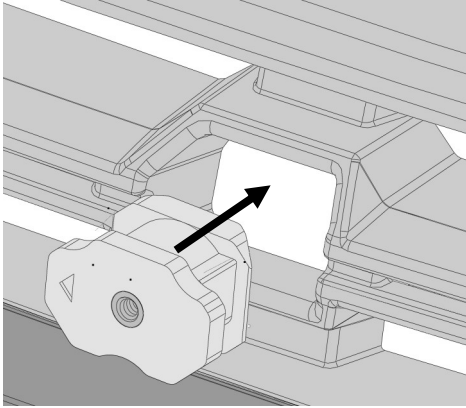
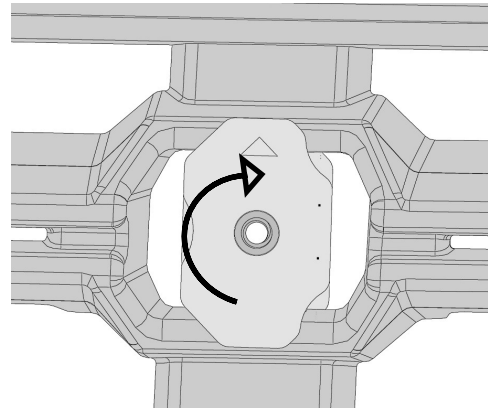

Figure 2
Figure 3
- B. Plugs will be inserted into grill openings with arrow pointing left (Fig. 2) then rotated clockwise so that arrow will be pointing up when in position (Fig. 3).